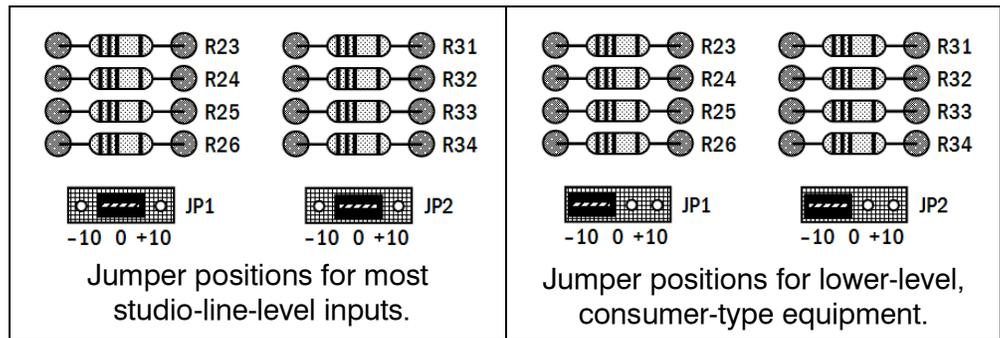

Figure 2 - Analog Input Gain Range Jumpering
- Gain Jumpers** Analog input gain-set jumpers are located beneath the top cover and at the end of the rows of components directly behind the ANALOG LINE INPUT connectors. They are labeled JP1 and JP2 for the RIGHT and the LEFT channels, respectively. Each jumper strip has a push-on jumper ‘shunt,’ which may be placed in 3 positions as shown in Figure 2 on the following page.